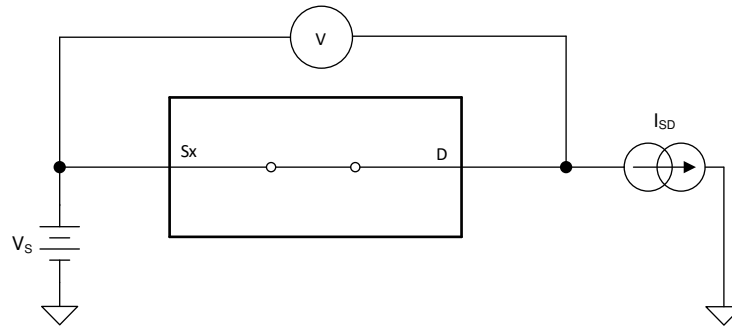

图 7-1. On-Resistance Measurement Setup
The on-resistance of a device is the ohmic resistance between the source (Sx) and drain (D) pins of the device. The on-resistance varies with input voltage and supply voltage. The symbol  $R_{ON}$  is used to denote on-resistance. 图 7-1 shows the measurement setup used to measure  $R_{ON}$ . Voltage (V) and current ( $I_{SD}$ ) are measured using this setup, and  $R_{ON}$  is computed with  $R_{ON} = V / I_{SD}$ :